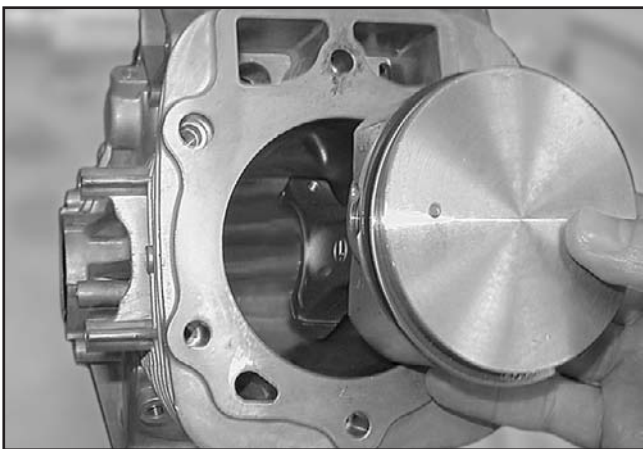

Figure 9-3. Remove Pistons and Connecting Rods
4. Remove No. 2 connecting rod cap and push connecting rod and piston assembly out through top of cylinder (Figure 9-3).